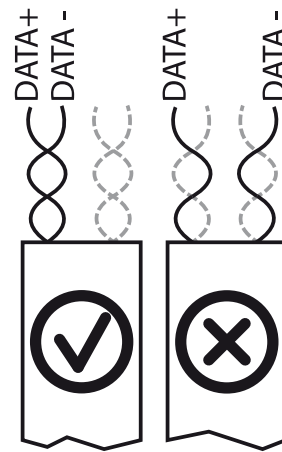

Figure 20: RS485 bus: Assignment of twisted-pair wires
- Observe the wire pairing when connecting DATA+ and DATA- (see Figure 20)